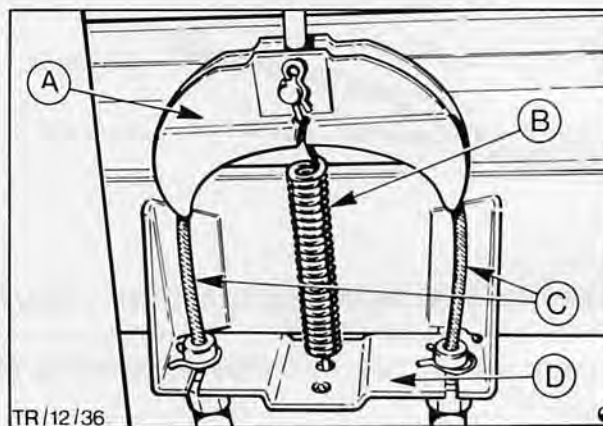

Fig. 11. A – Balancing yoke
5. Detach handbrake cable from linkage, body and bracket, Fig. 11 (1 bolt, 2 clips and 2 screws).